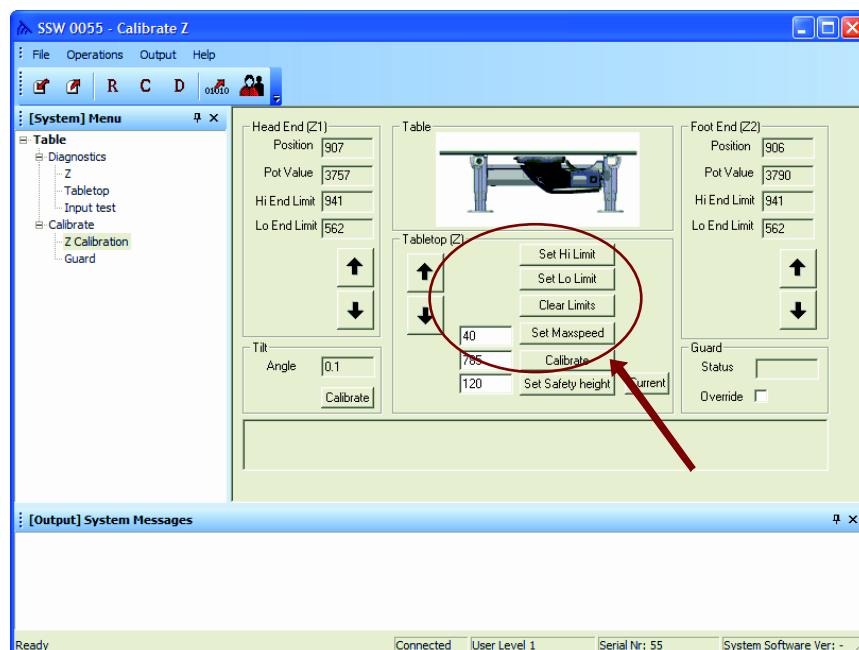

Fig. 4-161 Setting the Table top limits
4. Press the *Clear Limits* button, see **Fig. 4-161**.